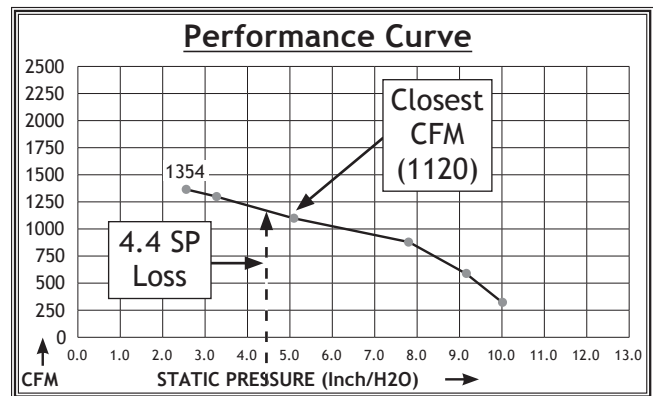

Figure 49. CFM for static pressure loss of line connected to a dust collector & router.
5. Compare the total static pressure loss for that line to the closest CFM given in Figure 49 for your dust collector.
Example: A typical Data Sheet Performance Curve is illustrated in Figure 49. Find 4.4 on the Static Pressure axis (the amount of total static pressure loss calculated in Figures 48-49), then refer to the closest value on the CFM axis—approximately 1120 CFM.